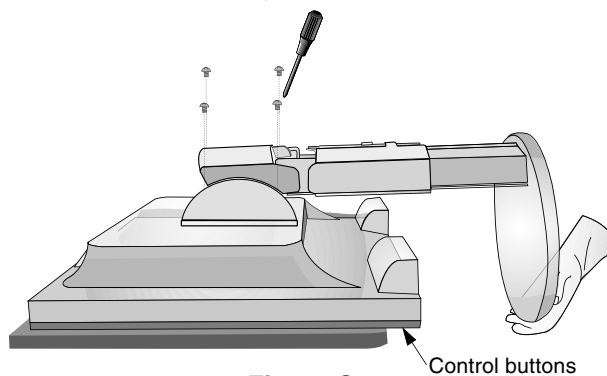

Figure S.2
3. Place monitor face down on a non-abrasive surface (**Figure S.2**).
4. Remove the 4 screws connecting the stand to the monitor (**Figure S.2**).